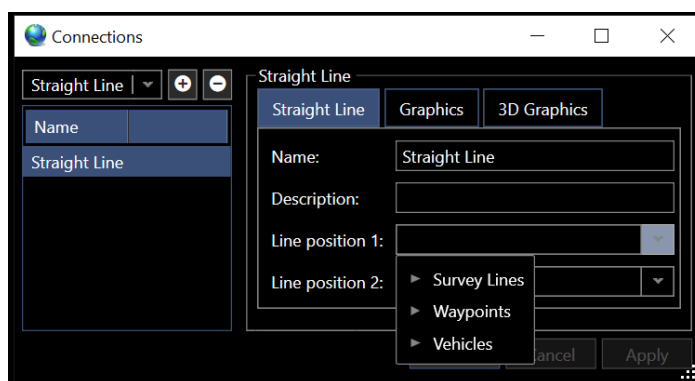

FIGURE 15-7 CONNECTIONS – STRAIGHT LINE - LINE POSITION OPTIONS
- **Line Position 1:** From the Line Position 1 drop-down list, select the start point of the connection from the available options, see Figure 15-7
- **Line Position 2:** From the Line Position 2 drop-down list, select the end point of the connection from the available options, see Figure 15-7